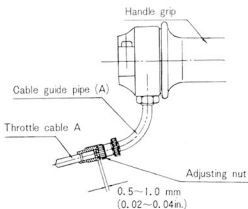

Fig. 2-3-3
- b. Next, adjust the slack of the throttle cable A to 0.5-1.0 mm with the adjusting nut installed on the cable guide pipe. (See Fig. 2-3-3).